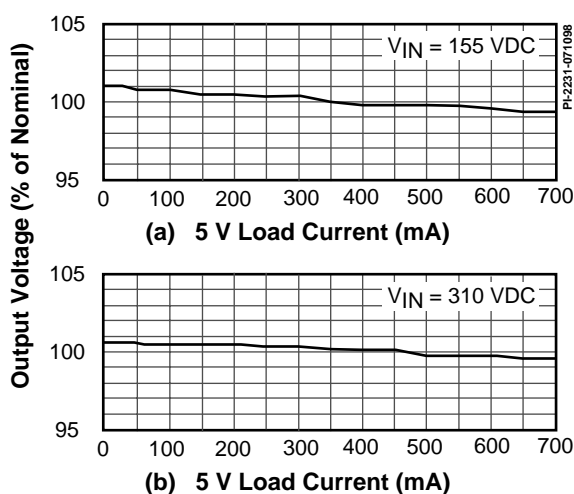

Figure 5 (a). Load Regulation at 155 VDC Input Voltage.
The circuit performance data shown in Figures 5 to 12 was
**Load Regulation (Figure 5(a) and 5(b))** - The amount of change in the DC output voltage for a given change in output current is referred to as load regulation. The 5 V output stay within  $\pm 1.0\%$  when the output current is between 0% to 100% of rated load current at the 5 V output. The TOPSwitch-II over-temperature protection circuit will safely shut down the power supply under prolonged overload conditions. When the output load is disconnected, R3 acts as a preload and the output stays in regulation.